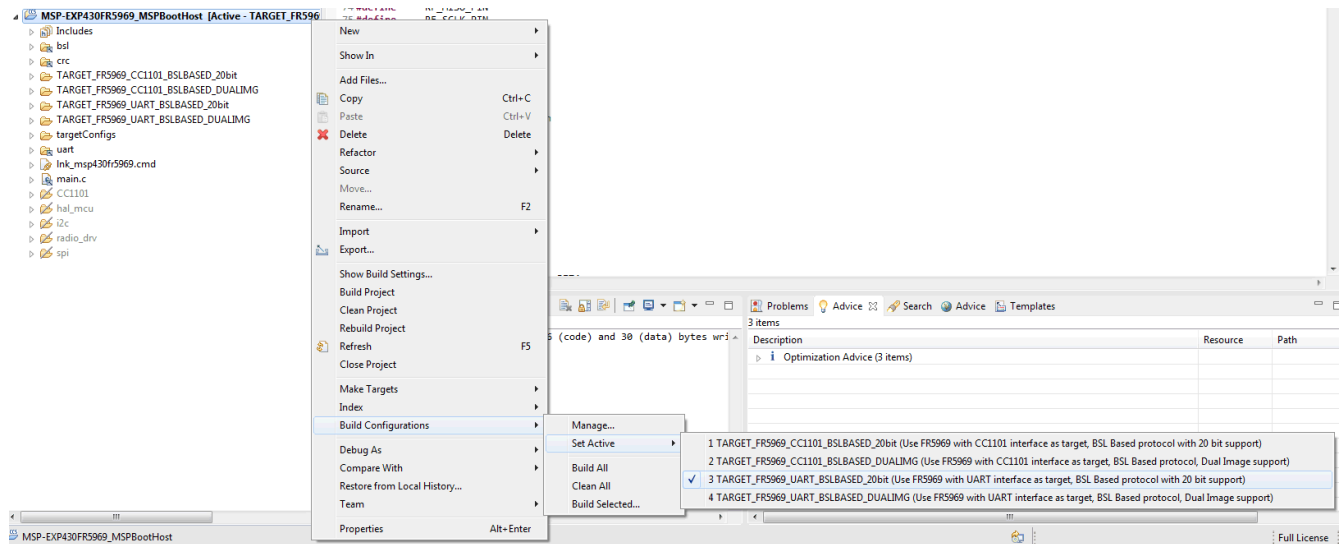

Figure 5-1. Target Selection for Host Project in CCS
2. Select the target derivative. This can be selected using the different target configurations in CCS (see Figure 5-1).